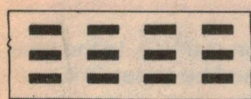

Fig. 4
1. Use a magnetic material which has a higher intrinsic magnetization than iron oxide. (Fig. 4).